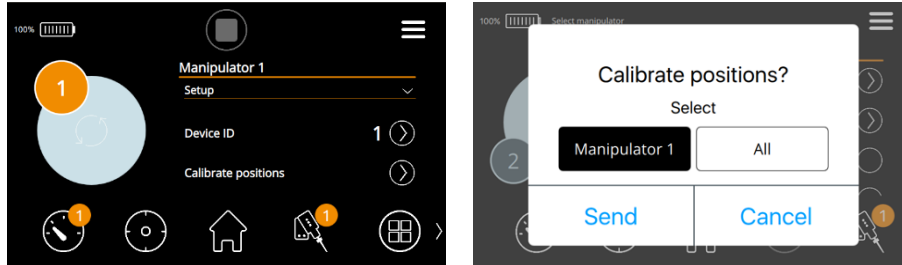

Figure 8. Calibrate positions and load.
- Go to Setup section of the Manipulator settings menu. All the connected manipulators are displayed by their ID numbers. Do calibrations for each micromanipulator, by selecting them one at the time (Fig. 8).